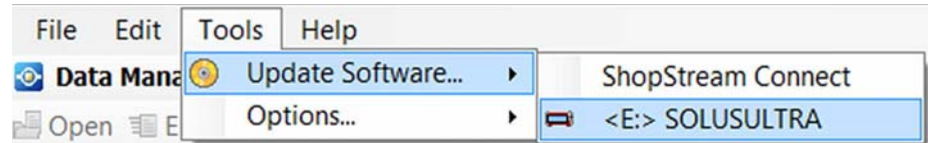

Figure 8-3
1. Select **Tools > Update Software > (Diagnostic Tool type - e.g. MODIS, SOLUS PRO, Vantage Ultra etc.)** from the Menu bar (Figure 8-3).